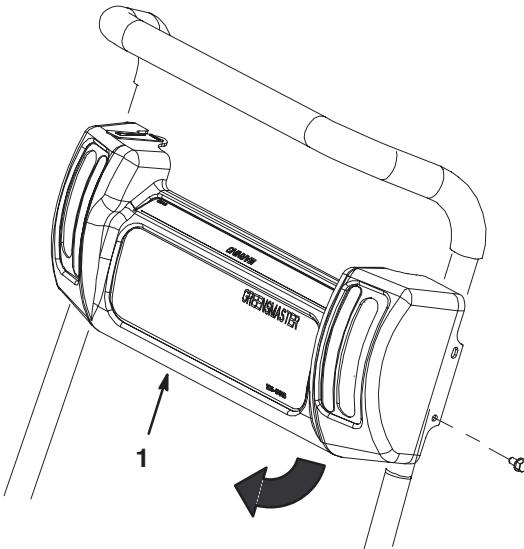

Figure 3
- Remove the (4) screws securing the console to the handle (Fig. 3). Rotate the left side of the console downward until the right side can be maneuvered over the traction control handle and away from the handle.
22. Reposition the console to the handle and secure with the (4) screws previously removed (Fig. 3).